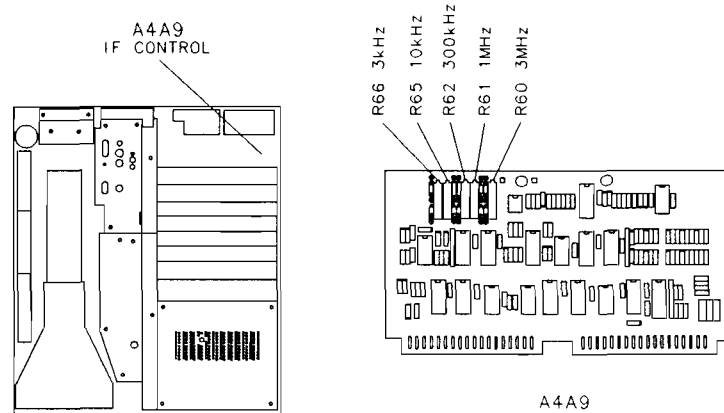

Figure 4-7. Location of Bandwidth Adjustments
Procedure	1. Position the instrument upright and remove the top cover. 2. Set the LINE switch to On and press (2–22 GHz). 3. Connect CAL OUTPUT to RF INPUT. 4. Key in (CENTER FREQUENCY) 100 MHz, (FREQUENCY SPAN) 5 MHz (RES BW) 3 MHz, and (LIN). 5. Press (REFERENCE LEVEL) and adjust the DATA knob to place the signal peak near the top CRT graticule. The signal should be centered about the center line on the graticule. 6. Press (PEAK SEARCH), MKR → (CF), and MARKER (Δ). 7. Using the DATA knob, adjust the marker down one side of the display signal to the 6 dB point; CRT MKR Δ annotation indicates .500 X 8. Adjust A4A9R60 3 MHz for MKR (Δ) indication of 1.5 MHz while maintaining the marker at .500 X using the DATA knob. Refer to Figure 4-7 for the adjustment location. 9. Press MARKER (Δ). Adjust the marker to the 6 dB point on the opposite side of the signal (CRT MKR Δ annotation indicates 1.00 X. There are now two markers; one on each side of the signal at the 6 dB point. 10. CRT MKR Δ annotation now indicates the 6 dB bandwidth of the 3 MHz bandwidth filter. The bandwidth should be 3.00 MHz ±0.60 MHz 11. Key in (RES BW) 1 MHz, (FREQUENCY SPAN) 2 MHz, (PEAK SEARCH), and (MKR → CF). If necessary, readjust by pressing (REFERENCE LEVEL) and using the DATA knob to place the signal peak near the top of the graticule. 12. Press MARKER (OFF) then MARKER (Δ).
14. Adjust A4A9R61 1 MHz for MKR Δ indication of 500 kHz while maintaining the marker at 0.500 X using the DATA knob. Refer to Figure 4-7 for the adjustment location.
20. Adjust A4A9R62 300 kHz for MKR Δ indication of 150 kHz while maintaining marker at .500 X using the data knob. Refer to Figure 4-7 for location of adjustment.
26. Adjust A4A9R65 10 kHz for MKR **[Δ]** indication of 5.00 kHz while maintaining the marker at .500 X using the DATA knob. Refer to Figure 4-7 for the adjustment location.
32. Adjust A4A9R66 3 kHz for MKR **[Δ]** indication of 1.5 kHz while maintaining the marker at .500 X using the DATA knob. Refer to Figure 4-7 for the adjustment location.